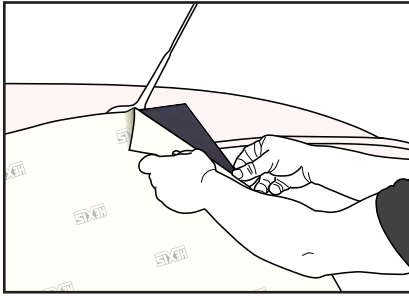

Figure 10
- › Remove the liner from the centre to the outer edge of the compound. (FIG. 10)